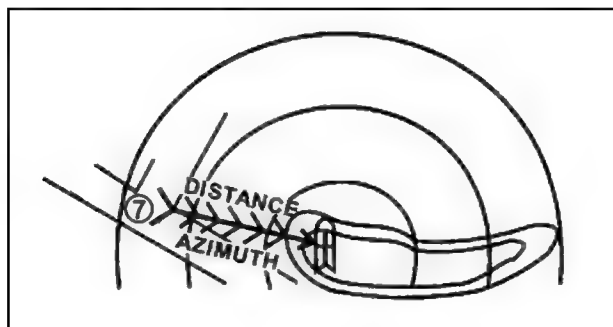

Figure B-10. Gunner's reference point and firing.
h. **Gunner's Reference Point.** The gunner's reference point (GRP) serves as a point of reference when one unit is being replaced by another (Figure B-10). The gunner locates a nearby recognizable terrain feature (such as hilltop, road junction, and so forth) to the right, left, or rear of his firing position to use as his GRP. Label the GRP and draw an arrow between it and the firing position to the terrain feature. The direction of the arrow determines which azimuth to use. *Record the azimuth and distance in the data section.*